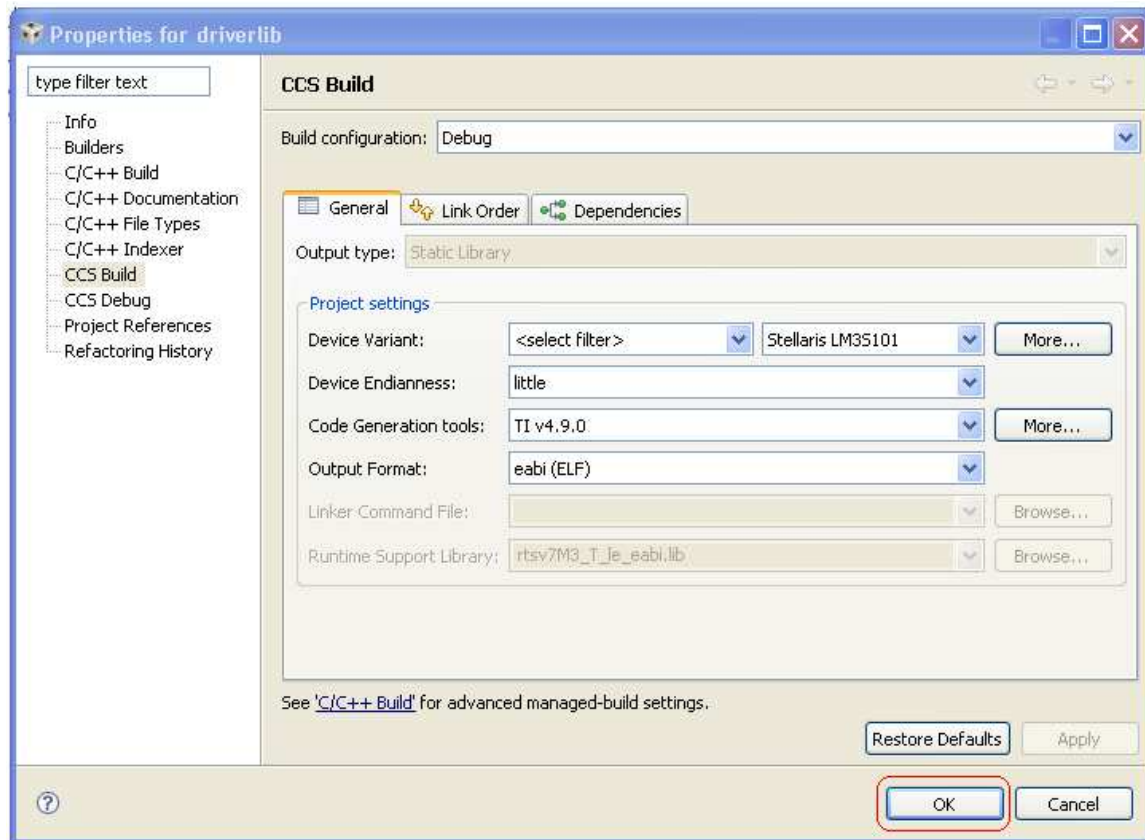

Figure 26. Properties for driverlib (Code Composer Studio Build)
- Click OK on the window that appears next (as shown in Figure 26) → return to the Code Composer Studio project properties for this project.